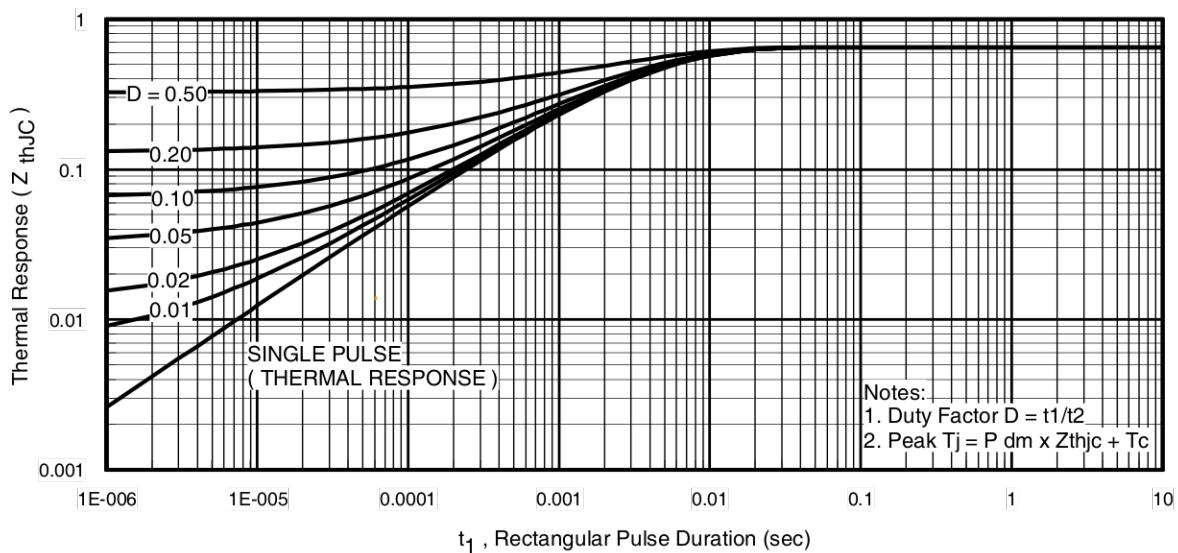
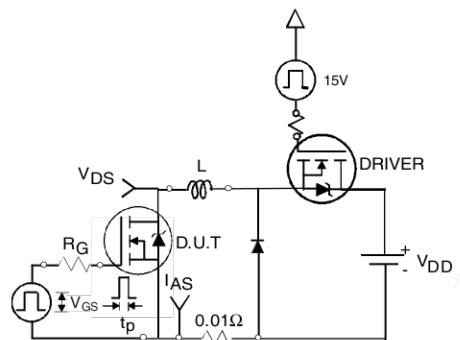

Fig 11. Maximum Effective Transient Thermal Impedance, Junction-to-Case
Fig 12a. Unclamped Inductive Test Circuit
- ① Repetitive rating; pulse width limited by max. junction temperature. (See fig. 11).
- ② Limited by $T_{J\text{max}}$, starting $T_J = 25^\circ\text{C}$, $L = 0.10\text{mH}$ $R_G = 25\Omega$, $I_{AS} = 75\text{A}$, $V_{\text{GS}} = 10\text{V}$. Part not recommended for use above this value.
- ③ Pulse width $\leq 1.0\text{ms}$; duty cycle $\leq 2\%$.
- ④ $C_{\text{oss eff.}}$ is a fixed capacitance that gives the same charging time as C_{oss} while V_{DS} is rising from 0 to 80% V_{DSS} .
- ⑤ Limited by $T_{J\text{max}}$, see Fig.12a, 12b, 15, 16 for typical repetitive avalanche performance.
- ⑥ This value determined from sample failure population. 100% tested to this value in production.
- ⑦ This is applied to D²Pak, when mounted on 1" square PCB (FR-4 or G-10 Material). For recommended footprint and soldering techniques refer to application note #AN-994.
3. Equation below based on circuit and waveforms shown in Figures 12a, 12b.
$Z_{thJC}(D, t_{av})$ = Transient thermal resistance, see figure 11)